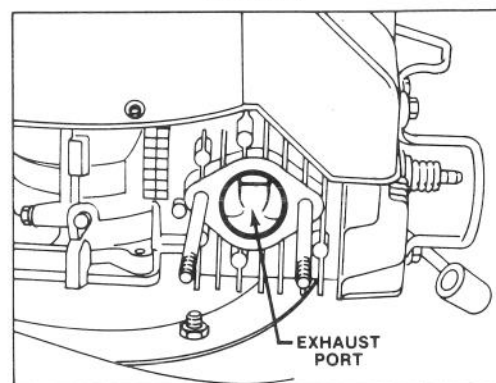

Figure 15
3. Pull wire off spark plug. Slowly pull recoil starter so piston covers exhaust port (Fig. 15).
4. Clean carbon from exhaust port (Fig. 15) with flat, hard wood scraper.